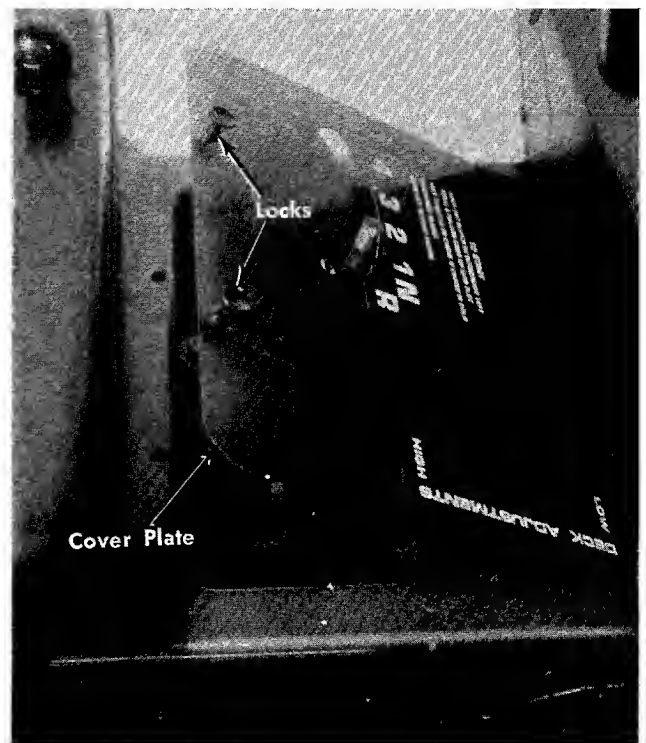

FIGURE 4.
1. Remove the cover plate in front of the seat. (See figure 4).